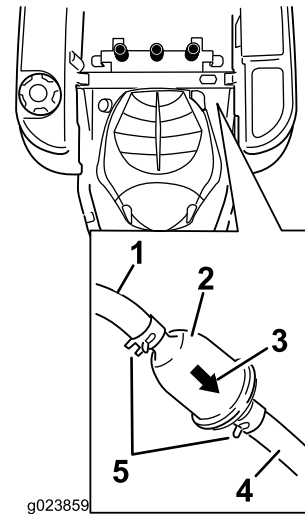

Figure 34
3. Locate the fuel filter on the side of the engine as shown in Figure 34.
4. Squeeze the ends of the hose clamps together and slide them away from the filter (Figure 34).
6. Install a new filter with the flow direction arrow coming from the fuel tank and pointing to the engine. Move the hose clamps close to the filter (Figure 34) to secure it in place.